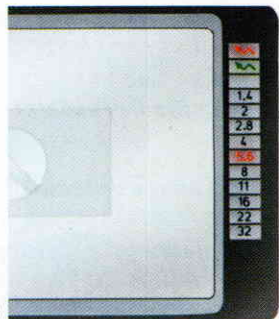

Fig. 29
*The selected aperture is shown in the scale on the right of the viewfinder (fig. 29). The aperture simulator linkage on the lens serves also to indicate to the camera the range of apertures available.*